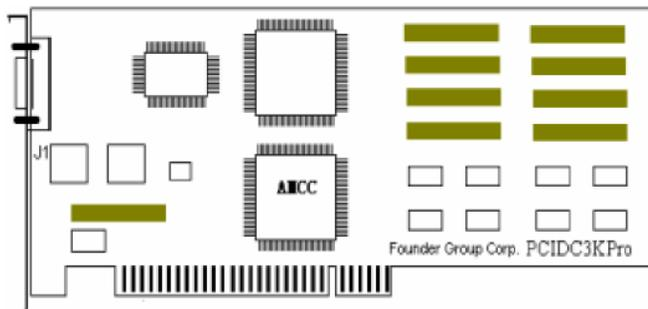

Figure1.
- Please make sure the interface adapter looks like Figure1.